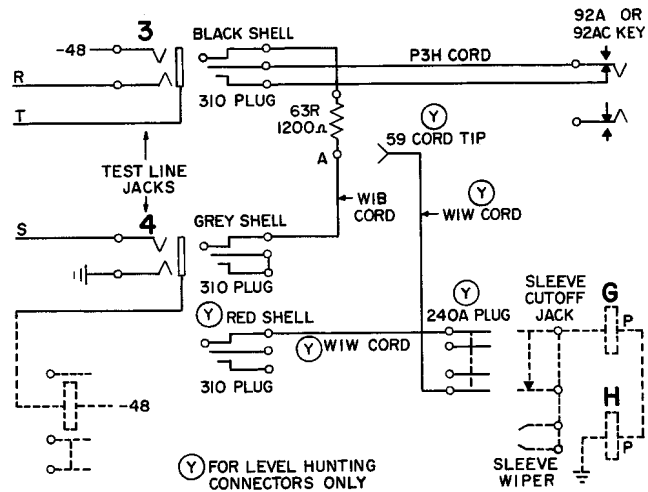

Fig. 1 — Testing Cord
1.01 This section describes a method of making a rapid operation test of local connectors and of the local functions of combination connectors of the 100- and 200-point type by means of the dial hand test sets and special test cord per Fig. 1.
2.03 Patching cord, P3H cord, 10 feet long, equipped with one 310 plug and one 240A plug (3P2A cord) (the 240A plug to be equipped with a 30 cord tip). One 893 cord equipped with two 360 tools and one 419A or KS-6278 tool. Connect as shown in Fig. 1.
- 1 Insert black shell 310 plug of special test cord (Fig. 1) into connector test line jack 3.
5	Insert gray shell 310 plug of special test cord (Fig. 1) into connector test line jack 4.
7	Connect 59 cord tip of special test cord to 1200-ohm resistor at point A (Fig. 1).
8	Insert red shell 310 plug of special test cord (Fig. 1) into connector test line jack 4.
13	Insert 240A plug of special test cord (Fig. 1) into connector sleeve cut-off jack so that No. 4 spring and stay cord of plug are to the right.